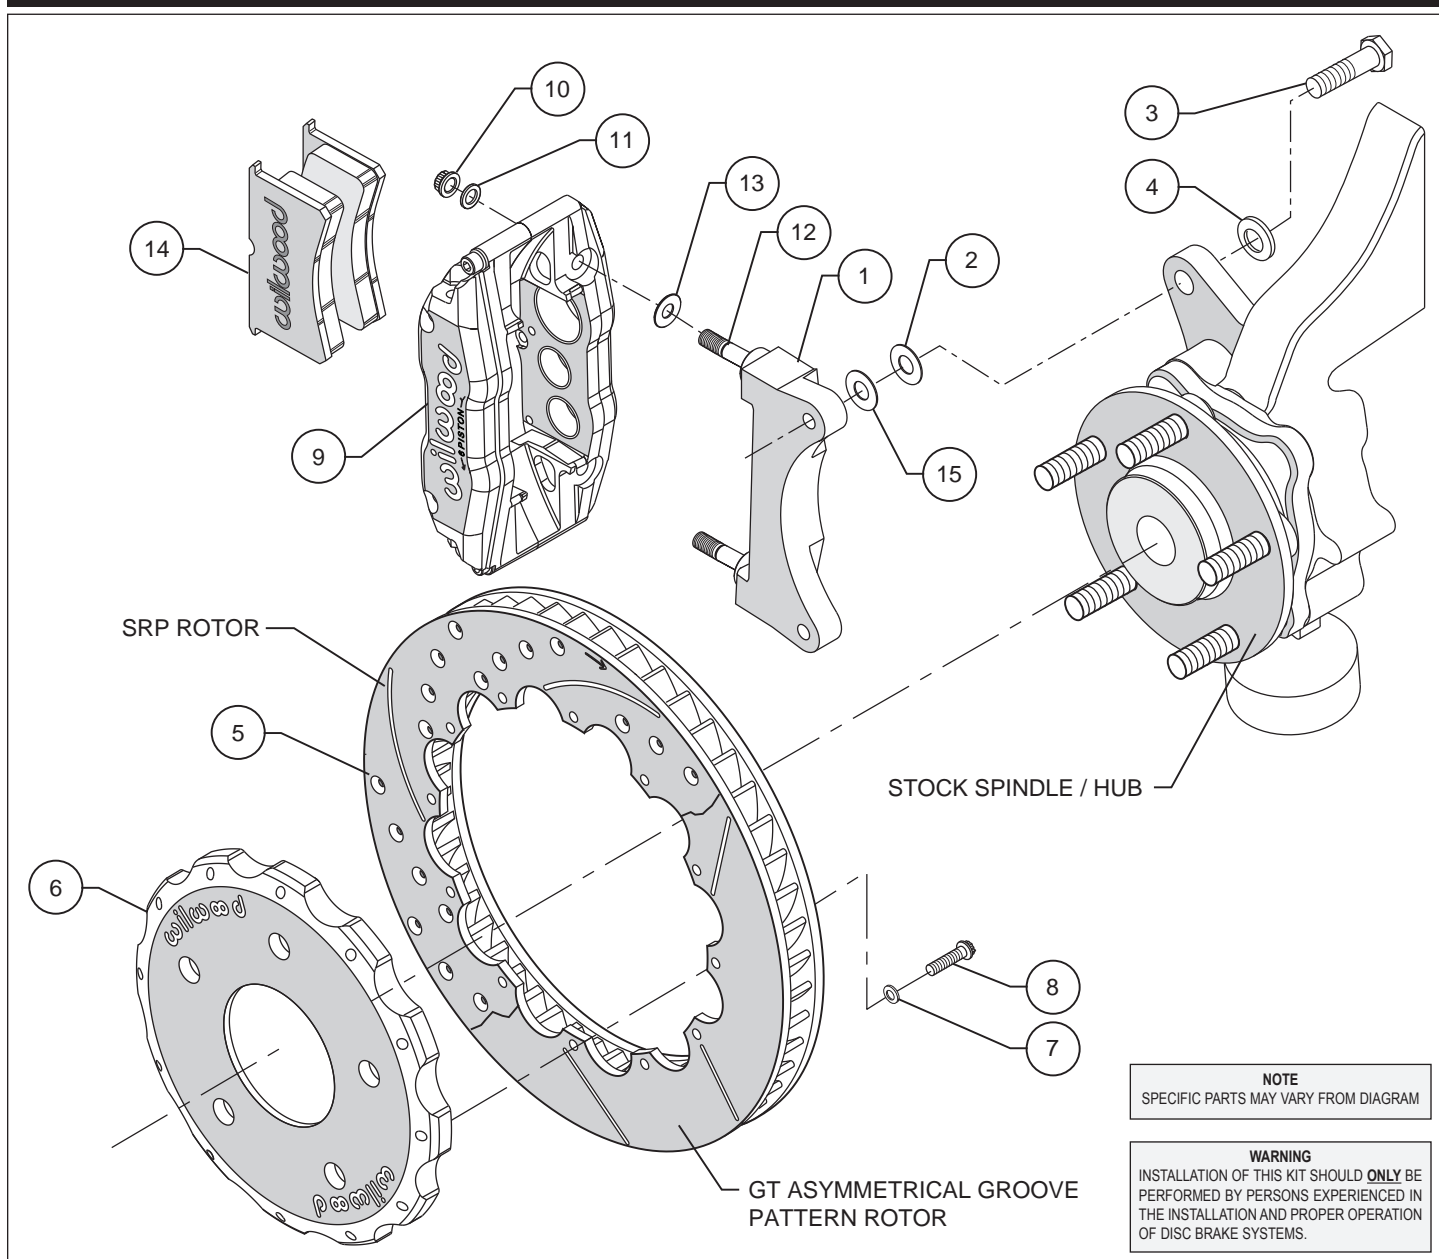

Figure 1. Typical Installation Configuration
- The caliper mounting bracket assembly (1) should be installed first with clean, dry threads on the mounting bolts. Install the bracket from the front side of the spindle by sliding bolt (3) through washer (4), and spindle ear. Place shim washer (2) between the bracket (1) and the spindle (see Figure 1). The bracket must tighten squarely against the side of the spindle body. Inspect for interference from casting irregularities, machining ridges, burrs, etc. Use one thin shim (2) between the bracket (1) and spindle during initial trial fitting.